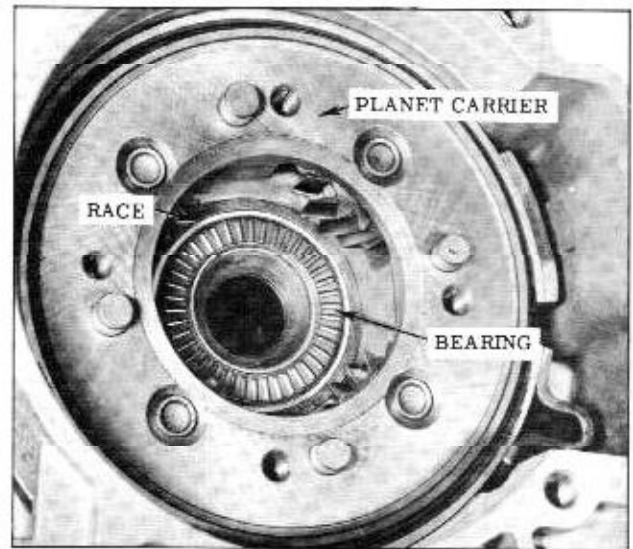

Fig. 3-110 Installing Thrust Bearing
25. Install rear unit sun gear to rear carrier thrust bearing into bearing race. (Fig. 3-110)